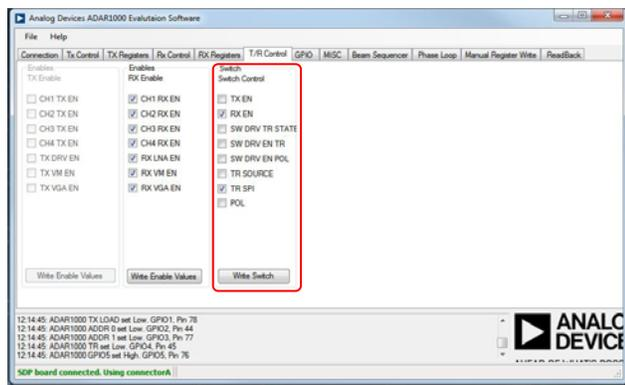

Figure 17. SPI Control, Receive Enable, and Receive Mode
1. Click the **T/R Control** tab (see Figure 17).